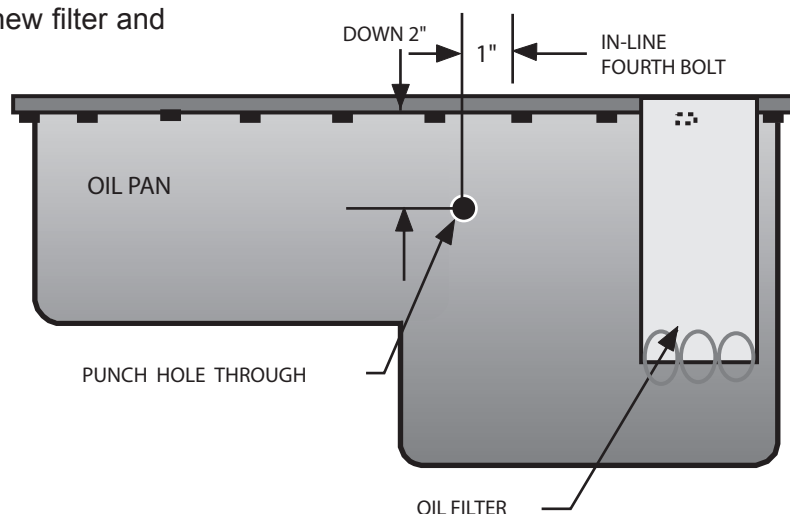

Fig. 3-a
- A. To provide an oil drain for the supercharger, it is necessary to make a hole in the oil pan. Locate and mark the hole location. (See Fig. 3-a.) It is best to punch the hole rather than drill.